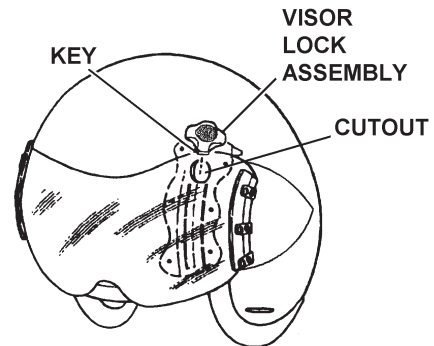

Figure 3-22. Installing Visor Lock Assembly
- a. Referring to Figure 3-22, insert the visor lock assembly (with the key turned lengthwise) through the visor cutout and into the opening at the top of the visor locking guide.